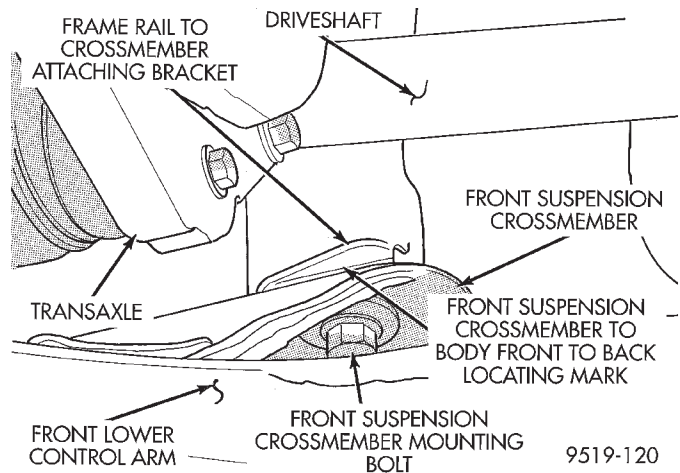
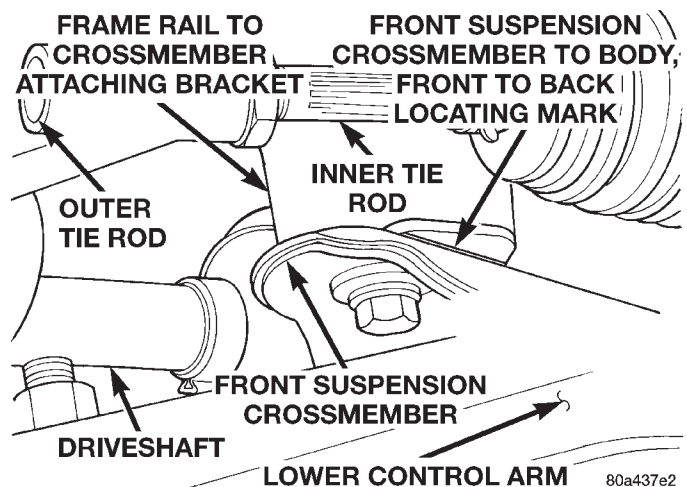
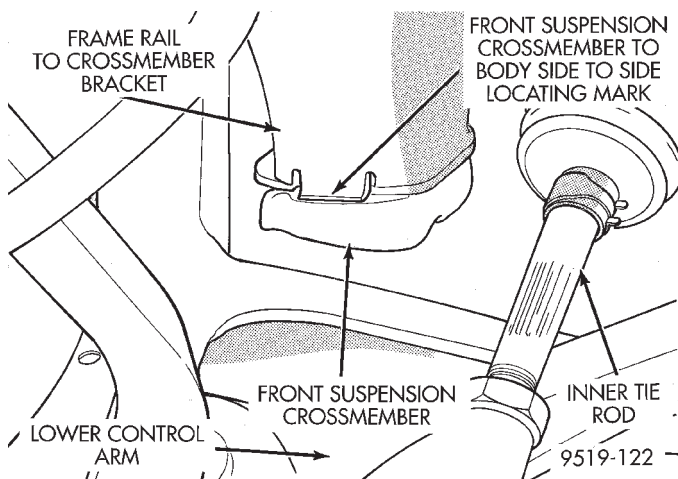

Fig. 9 Front Suspension Crossmember Front To Back Locating Mark (Left Side Front)
Fig. 10 Front Suspension Crossmember Front To Back Locating Mark (Left Side Rear)
Fig. 11 Front Suspension Crossmember Side To Side Locating Mark
(8) Using an awl, scribe a line on the body (Fig. 9) and (Fig. 10) marking the front to back installed location where the front suspension crossmember is mounted against the body of the vehicle. The line should be scribed at both the front and back of where the crossmember is mounted to the vehicle and on each side of the vehicle. In (Fig. 9) and (Fig. 10) the left side of the vehicle is shown.
(9) Using an awl, scribe a line on the front suspension crossmember (Fig. 11) marking the side to side installed location where front suspension crossmember is mounted against the body of the vehicle. The line should be scribed at the side of the frame rail locating bracket (Fig. 11) where the crossmember is mounted
to the vehicle. The locating mark is to be marked the same on each side of the vehicle. In (Fig. 11) the left side of the vehicle is shown.
(4) Using a soft face hammer, tap front suspension crossmember into position, until it is aligned with the previously scribed positioning marks on body of vehicle (Fig. 9), (Fig. 10) and (Fig. 11). When front suspension crossmember is correctly positioned, torque the 2 rear crossmember mounting bolts to 163 N·m (120 ft. lbs.). Then torque the 2 front crossmember to frame rail attaching bolts to 163 N·m (120 ft. lbs.).